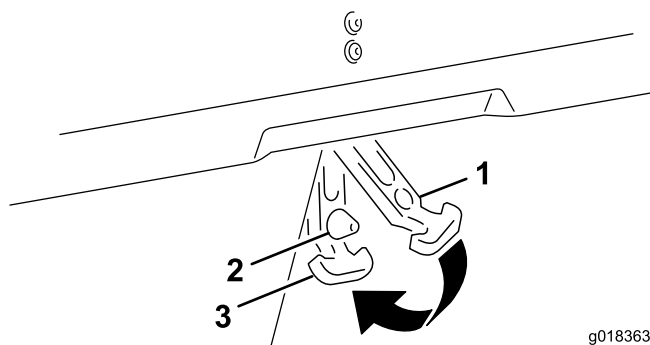

Figure 14
7. Align the hole in the rubber hood latch with the hood rod (Figure 14).
8. Attach the rubber hood latch to the hood rod end as shown in Figure 14.